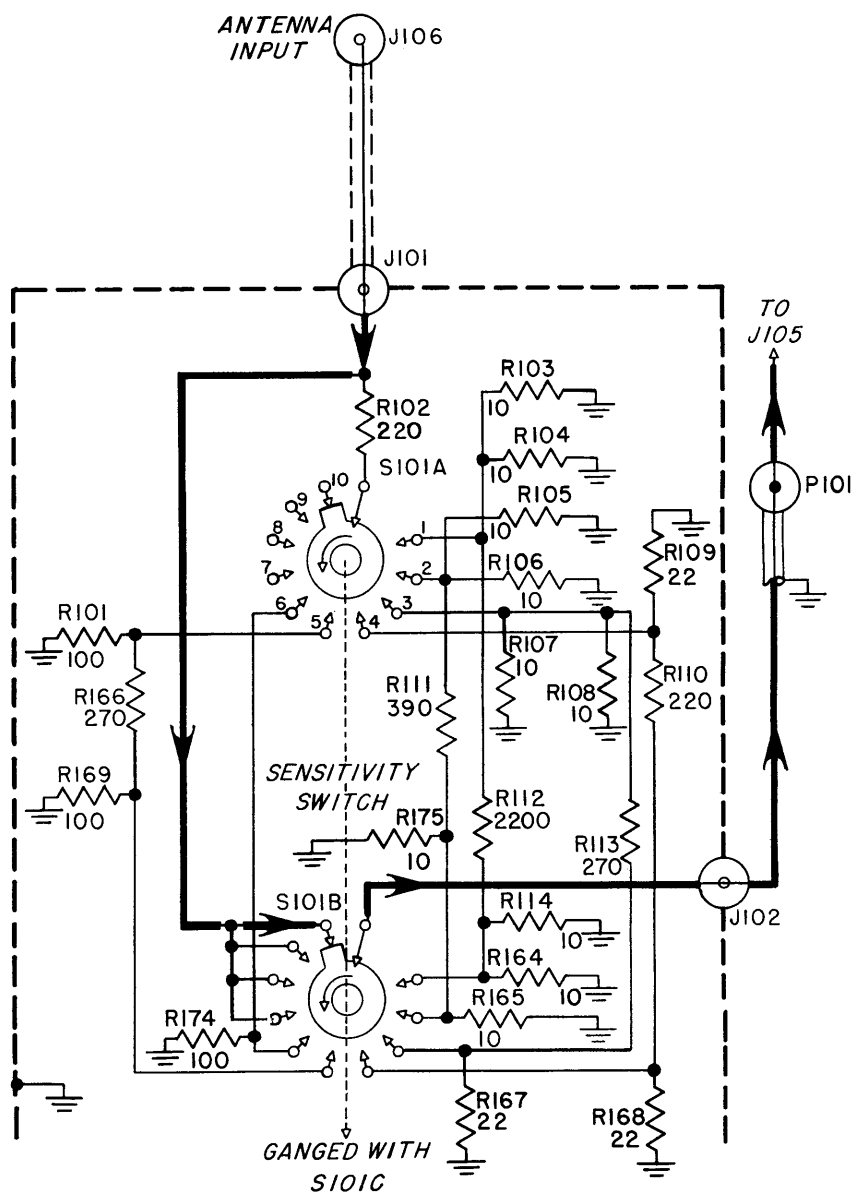

Figure 2-2. Input Attenuator, Simplified Schematic Diagram
a. INPUT ATTENUATOR (See Figure 2-2).—The Monitor is used for checking modulated or unmodulated R.F. signals in the frequency range of 0.3 to 400 megacycles. The R.F. voltage from the antenna (or the test probe when used) comes into the input attenuator via antenna connector J106. This attenuator is made up of two switch sections S101A and S101B together with their associated resistors. It is operated by the same shaft as the chopper attenuator. In positions 1 through 6 the input attenuator functions to prevent overloading of the R.F. amplifier. In positions 7 through 10 it